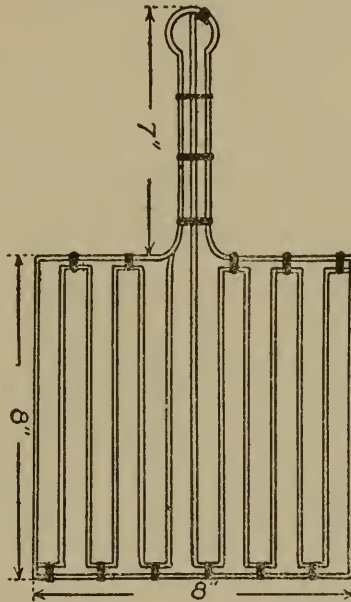

FIG. 31. A USEFUL BENT IRON TOASTER
**How to Make a Toaster.**—This is a good piece of work to start with because it is formed chiefly of straight lines. Draw a plan of it as shown in Fig. 31, full size and then measure the frame and the inside strips — you will observe that there are two of the latter — and find out exactly how long each strip should be.
Now if you will look again at Fig. 31, you will see that one end of the right inside strip projects up and beyond the rest of it and this end sets in the handle of the frame and strengthens it; put a binder on each place where it is shown in the drawing including the handle. Fix in the left inside bent strip with binders and put the binders on so that the rough ends will be